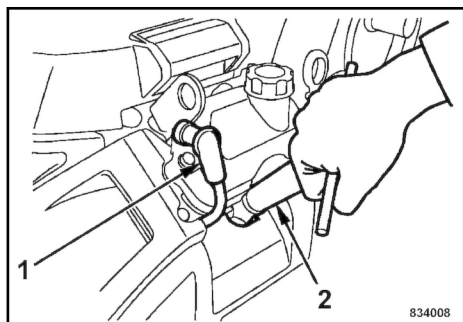

Fig. 168
1. Pull off the spark plug socket (1) ↪ Fig. 168 and clean off any dirt in the spark plug area.
2. Unscrew the spark plug with a spark plug spanner (2).